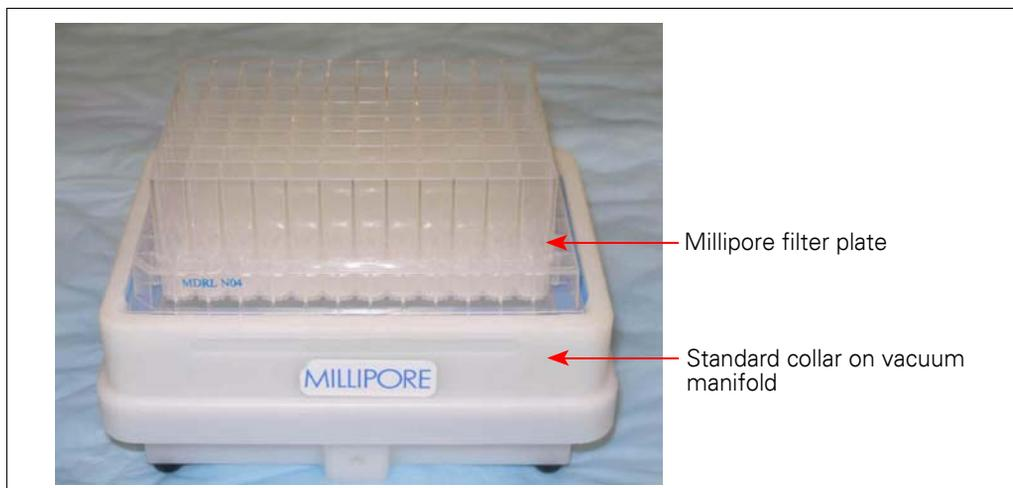

Figure 5.8 Millipore filter plate on standard collar
1. Place the filter plate on the standard collar on the vacuum manifold (Figure 5.8).